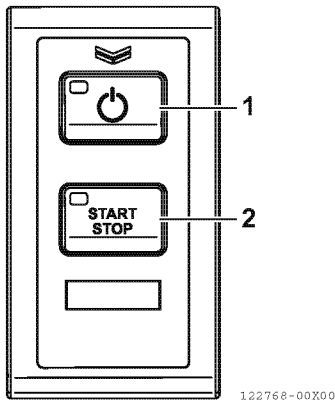

Figure 25
4. Press the Power switch on the switch panel of the selected station (**Figure 25, (1)**).
9. Press the Engine START/STOP switch (**Figure 25, (2)**) and power on the starter.